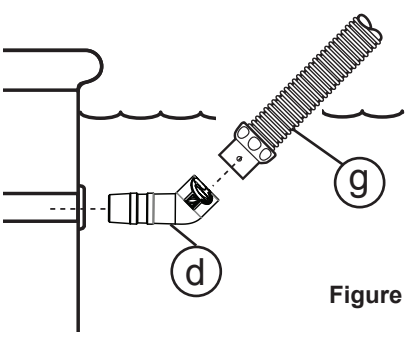

Figure 3
3. Angle the elbow toward the water surface (Figure 3).